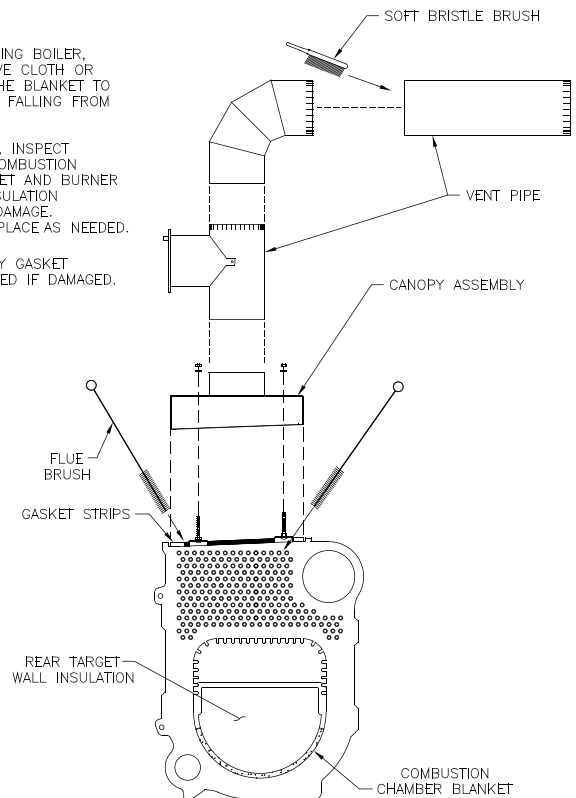

Figure 20: Cleaning of Boiler Flueways
A. CLEAN THE FLUEWAYS (See Figure 20).